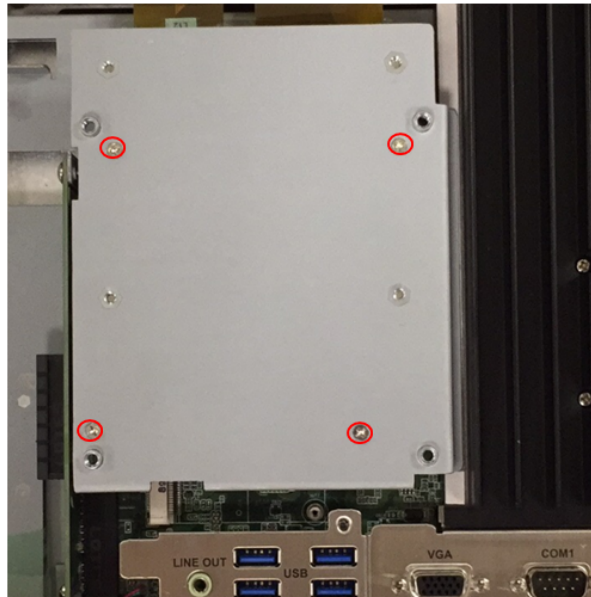

Figure 2.14
1. Follow the procedures in Section 2.3 to open the rear cover and remove the screws circled in red in Figure 2.14 to retrieve the reinforcement plate.